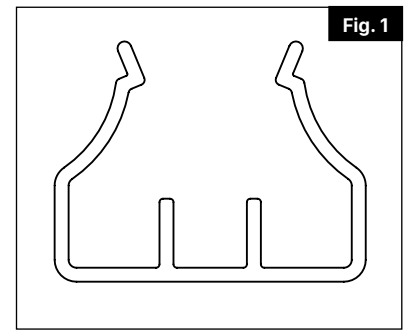

Fig. 1
Remove the 62" post insert from the infill kit (Fig. 1).
2. For Walk Gate cut 15" off both sides of the 65½" DSP panel (Fig 1).
3. For Drive Gate cut 9" off both sides of the 65½" DSP panel (Fig. 1).
4. Assemble DSP panel: Place the cut slit channel over the top and bottom of the DSP panel. Place the 13" aluminum channels on both end of the DSP panel (Fig. 1).
1. Install cut back rail inserts into top, bottom, and both sides of mid rail (Fig. 1).